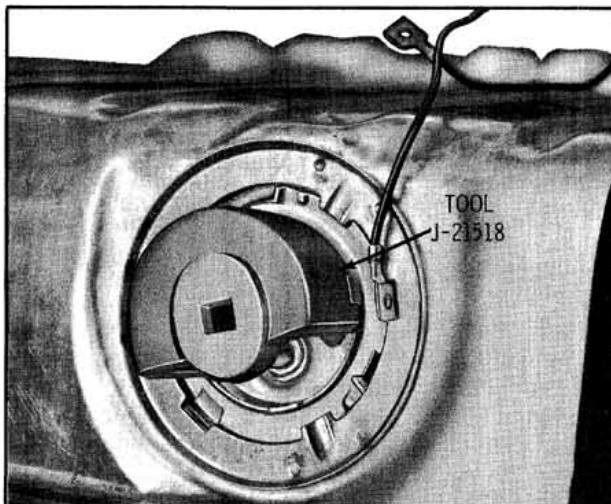

Fig. 3-131 Removing Fuel Gauge
2. Remove fuel gauge retainer using Tool J-21518. (Fig. 3-131)